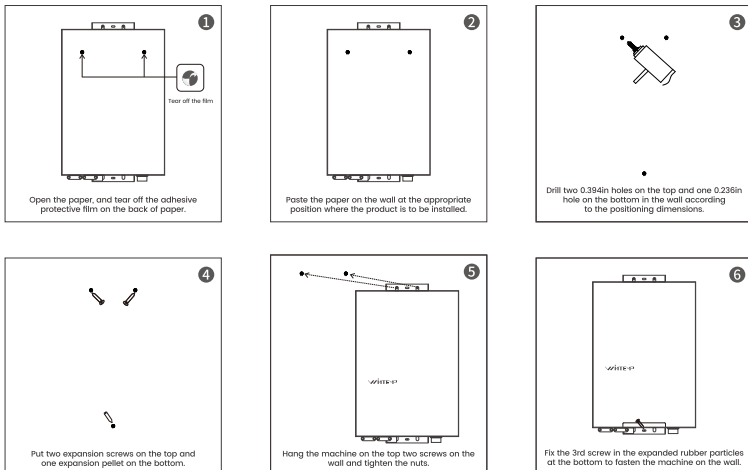

Fig 3
Step 2: Fix the appliance on the wall (Fig 3). Please use the positioning guide from the inner packaging to ensure accurate placement during installation.